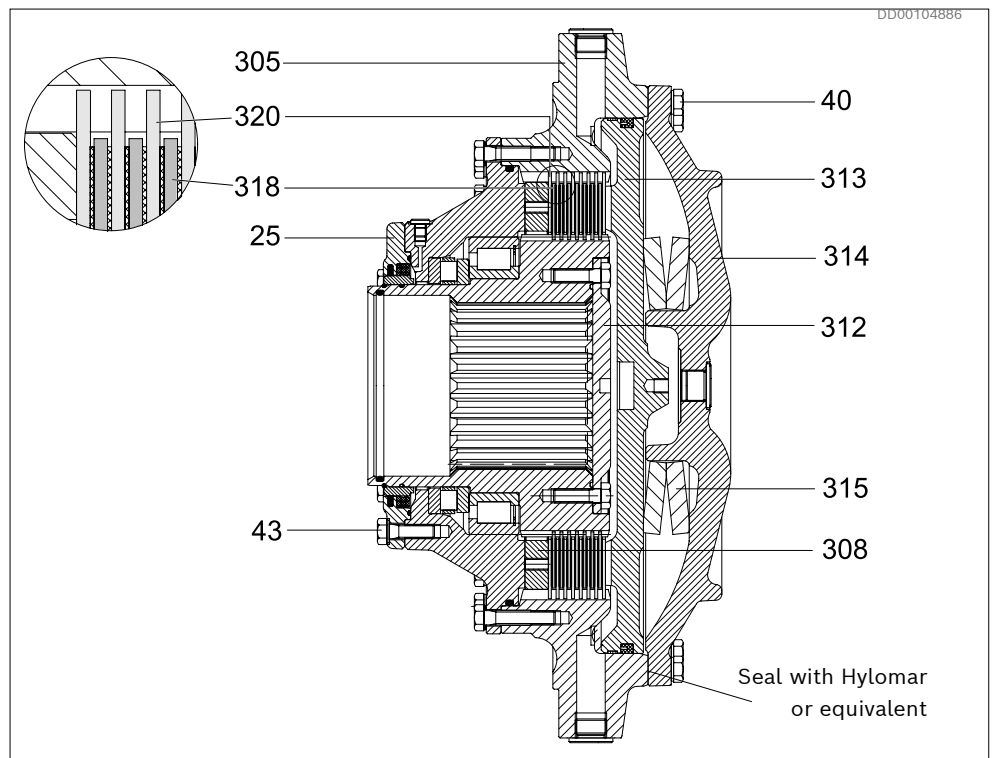

Fig. 48: Parts in MDA 14 and MDA 21
Disassemble the brakes according to 7.4.9. Note: Remove cover (pos 312). See Fig. 48